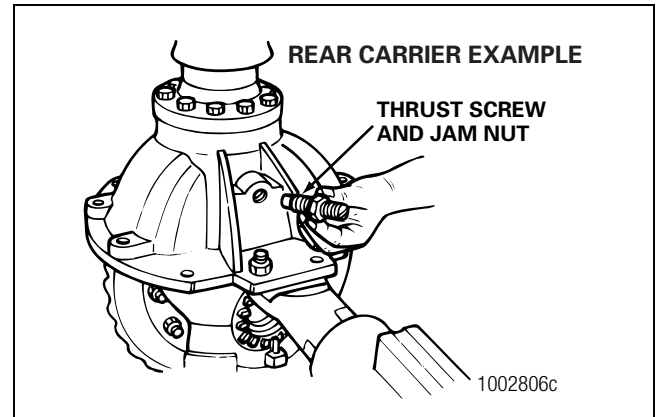

Figure 5.77
2. Install the jam nut onto the thrust screw. Thread the jam nut to the middle of the thrust screw. Figure 5.77.